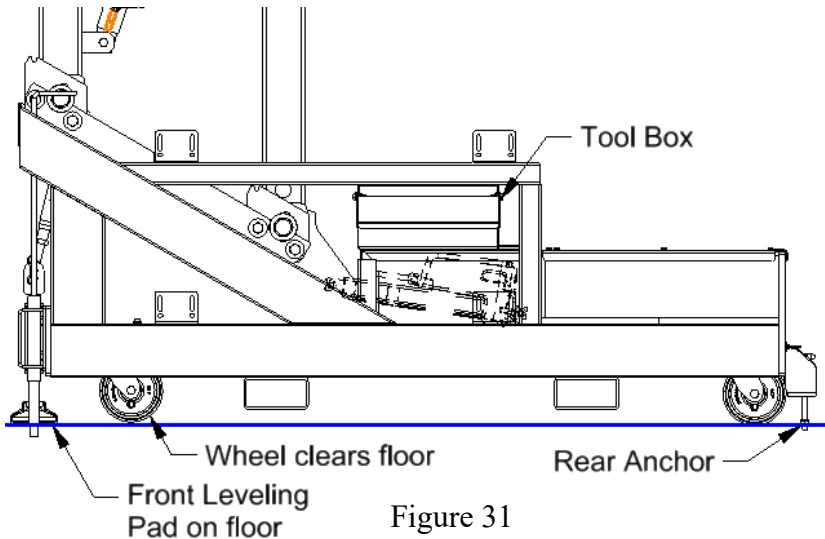

Figure 31
5. Check that the Front Leveling pad is on the floor and the Front Casters wheels clear the floor as shown in figure 31. Unit is ready to play.